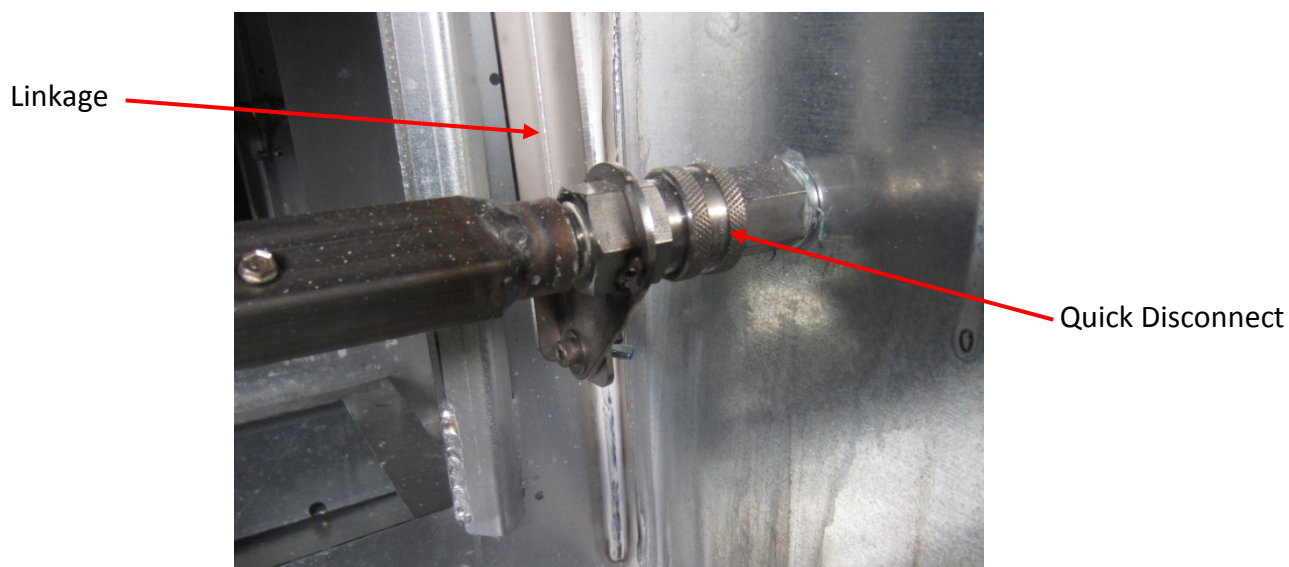

Figure 4-36-2
1. The Standard Manifolds are connected to the water inlet pipe with a quick disconnect fitting. Slide the outer couple towards the water inlet and push the manifold away and off to one side (Refer to Figure 4-36-2).